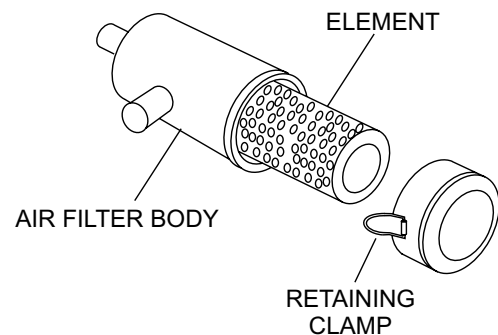

Figure 35. Air Cleaner
1. Release the air cleaner retaining clamps (Figure 35) and remove the air cleaner element.